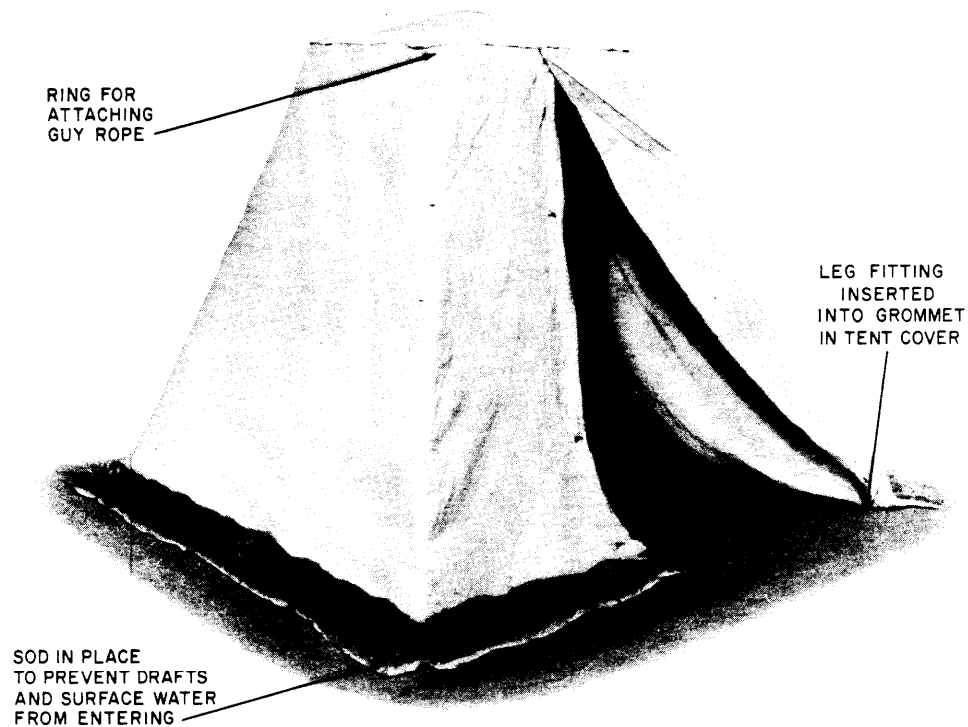

Fig. 3 — Tent Placed Over Excavation
**3.02** After the tent has been erected, earth may be placed on the sod flap to prevent drafts and surface water from entering the tent. Fig. 3 illustrates the tent in position over an excavation.